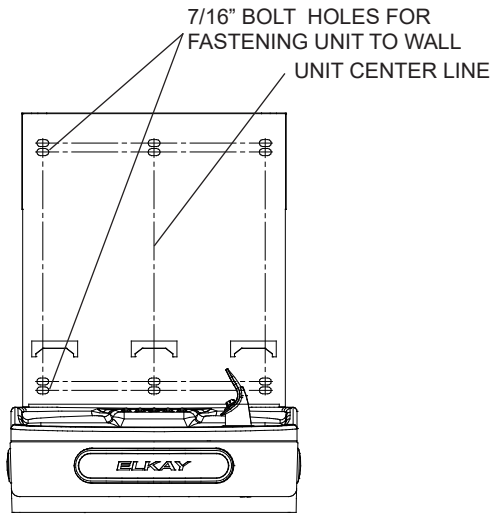

Fig. 4
- 4) **Install wall mounting plate** to wall using six (6) 7/16" obround mounting holes (mounting bolts not included) (See Fig. 4). Use appropriate fasteners for your wall type.